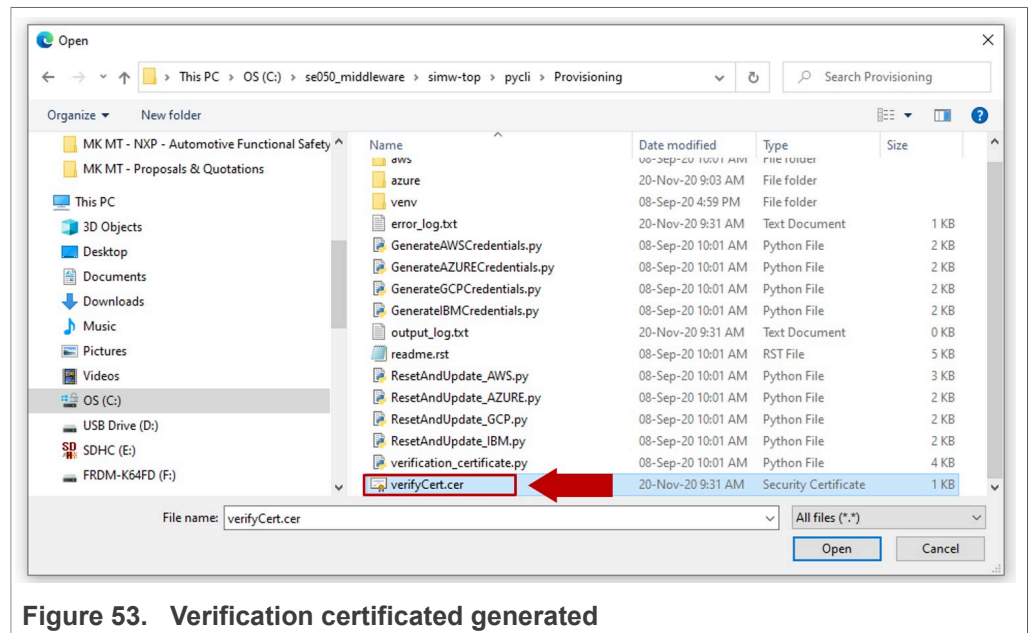

Figure 53. Verification certificated generated
- Make sure a file called `verifyCert.cer` has been generated in `simw-top\pycli\Provisioning` folder, as shown in Figure 53: